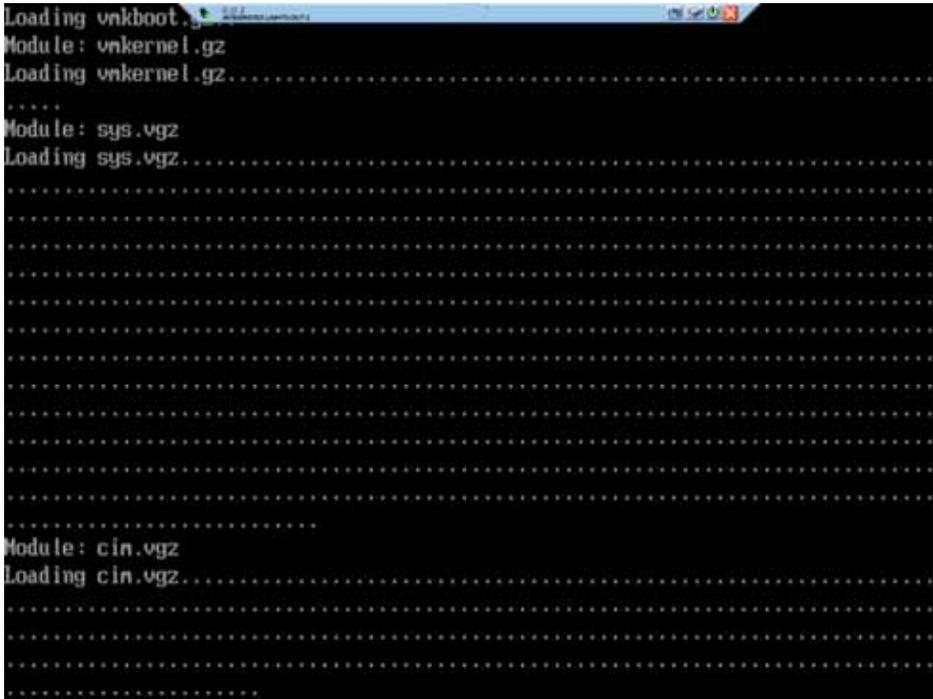

Figure 25 Loading OS Files from Modified ISO Image
- Step 1** From the ESXi 4.1 server, locate and mount the modified ISO (`XG-VMware-Visor-Installer`). When the ISO is mounted, ESXi 4.1 begins loading all pertinent OS files, as shown in Figure 25 on page 57.